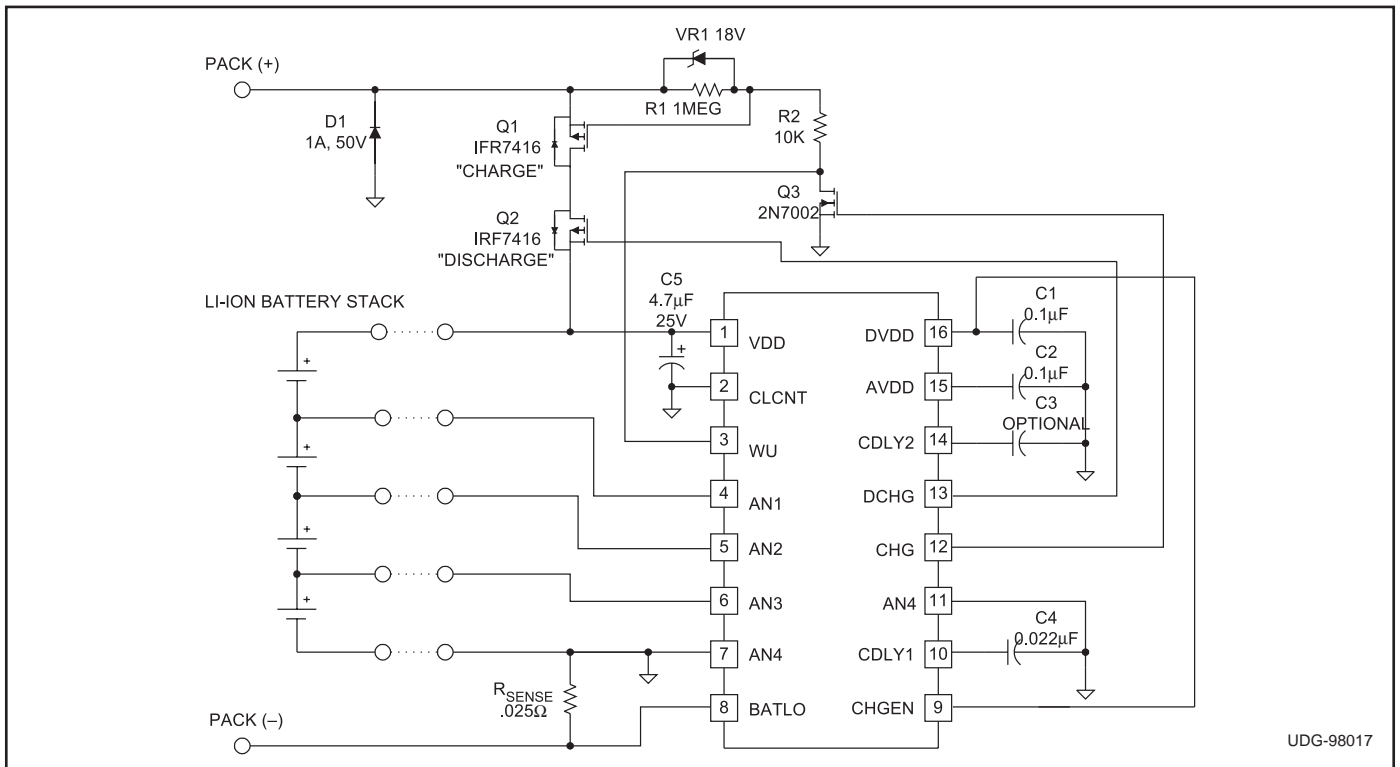

Figure 2. Four Cell Protector With Optional Components to Protect the Charge FET from Excessive Gate-Source Transients
The use of a small N-channel level shifter (Q3 in the application diagrams) allows the IC to interface with the high-side Charge FET (Q1), even in the presence of a runaway charger. Only the drain-source voltage rating of the charge FET limits the charge voltage that the protection circuit can withstand. The Wakeup (WU) pin is designed to handle input voltages greater than VDD, as long as the current is limited. In the examples shown, the Charge FET’s gate-source resistor (R1) provides this current limiting. Note that in Figure 2, a resistor and zener (R2 and VR1) have been added to protect Q1 against any possibility of a voltage transient exceeding its maximum gate-source rating.